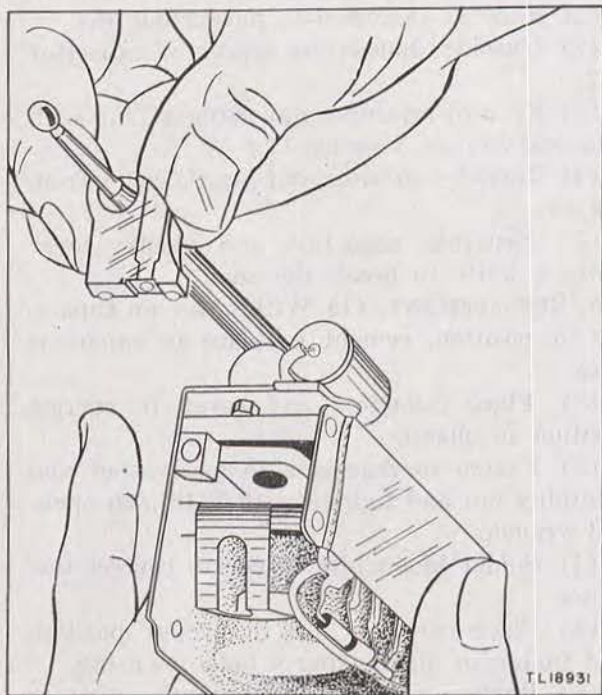
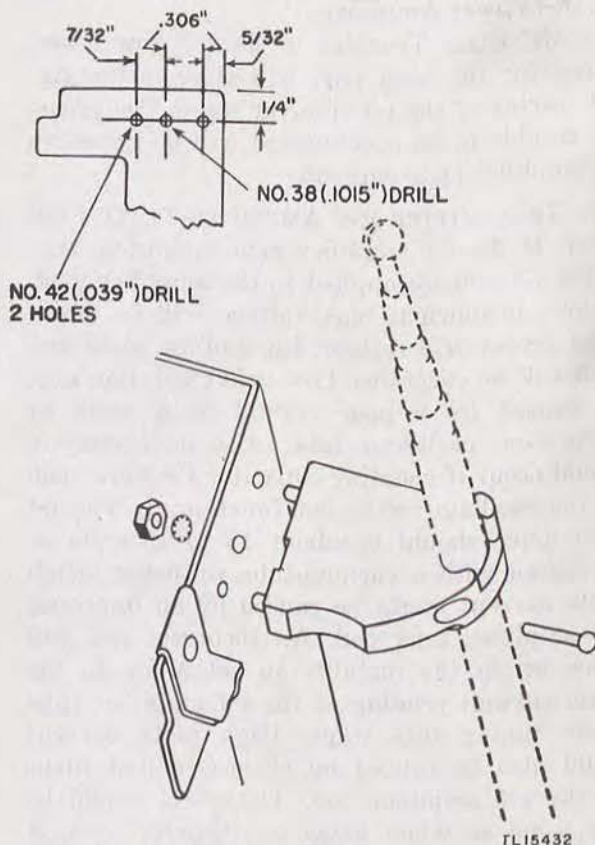

Figure 42. Removal of antenna insulator, Radio Receiver and Transmitter BC-611-(\*).
Figure 43. Chassis drill layout, Radio Receiver and Transmitter BC-611-(\*).
*a. REMOVAL.* (1) Remove antenna support insulator retaining screw and lockwasher.
(2) The insulator is located on the chassis by the use of lugs on the insulator and location of holes in chassis. Separate insulator from chassis and slide over the antenna. (See fig. 42.)
*b. REPLACEMENT ON PRODUCTION EQUIPPED CHASSIS.* (1) With insulator in correct position, as shown in figure 42, slide over the antenna.
(2) Slide screw and lockwasher into proper place in insulator.
(3) Align the positioning lugs of the insulator with the holes in the chassis and tighten the retaining screw.
*c. REPLACEMENT ON CHASSIS NOT PRODUCTION EQUIPPED.* (1) Remove antenna and antenna guide as directed in paragraph 36*a*.
(2) Lay-out the holes in the chassis and drill in accordance with the information contained in paragraph 36.
(3) Replace antenna and antenna guide as indicated in paragraph 36*b*.
(4) With insulator in the correct position, as shown in figure 43, slide over antenna, and align positioning lugs of the insulators with the holes in chassis.
(5) Fasten in place with nut, screw, and lockwasher.